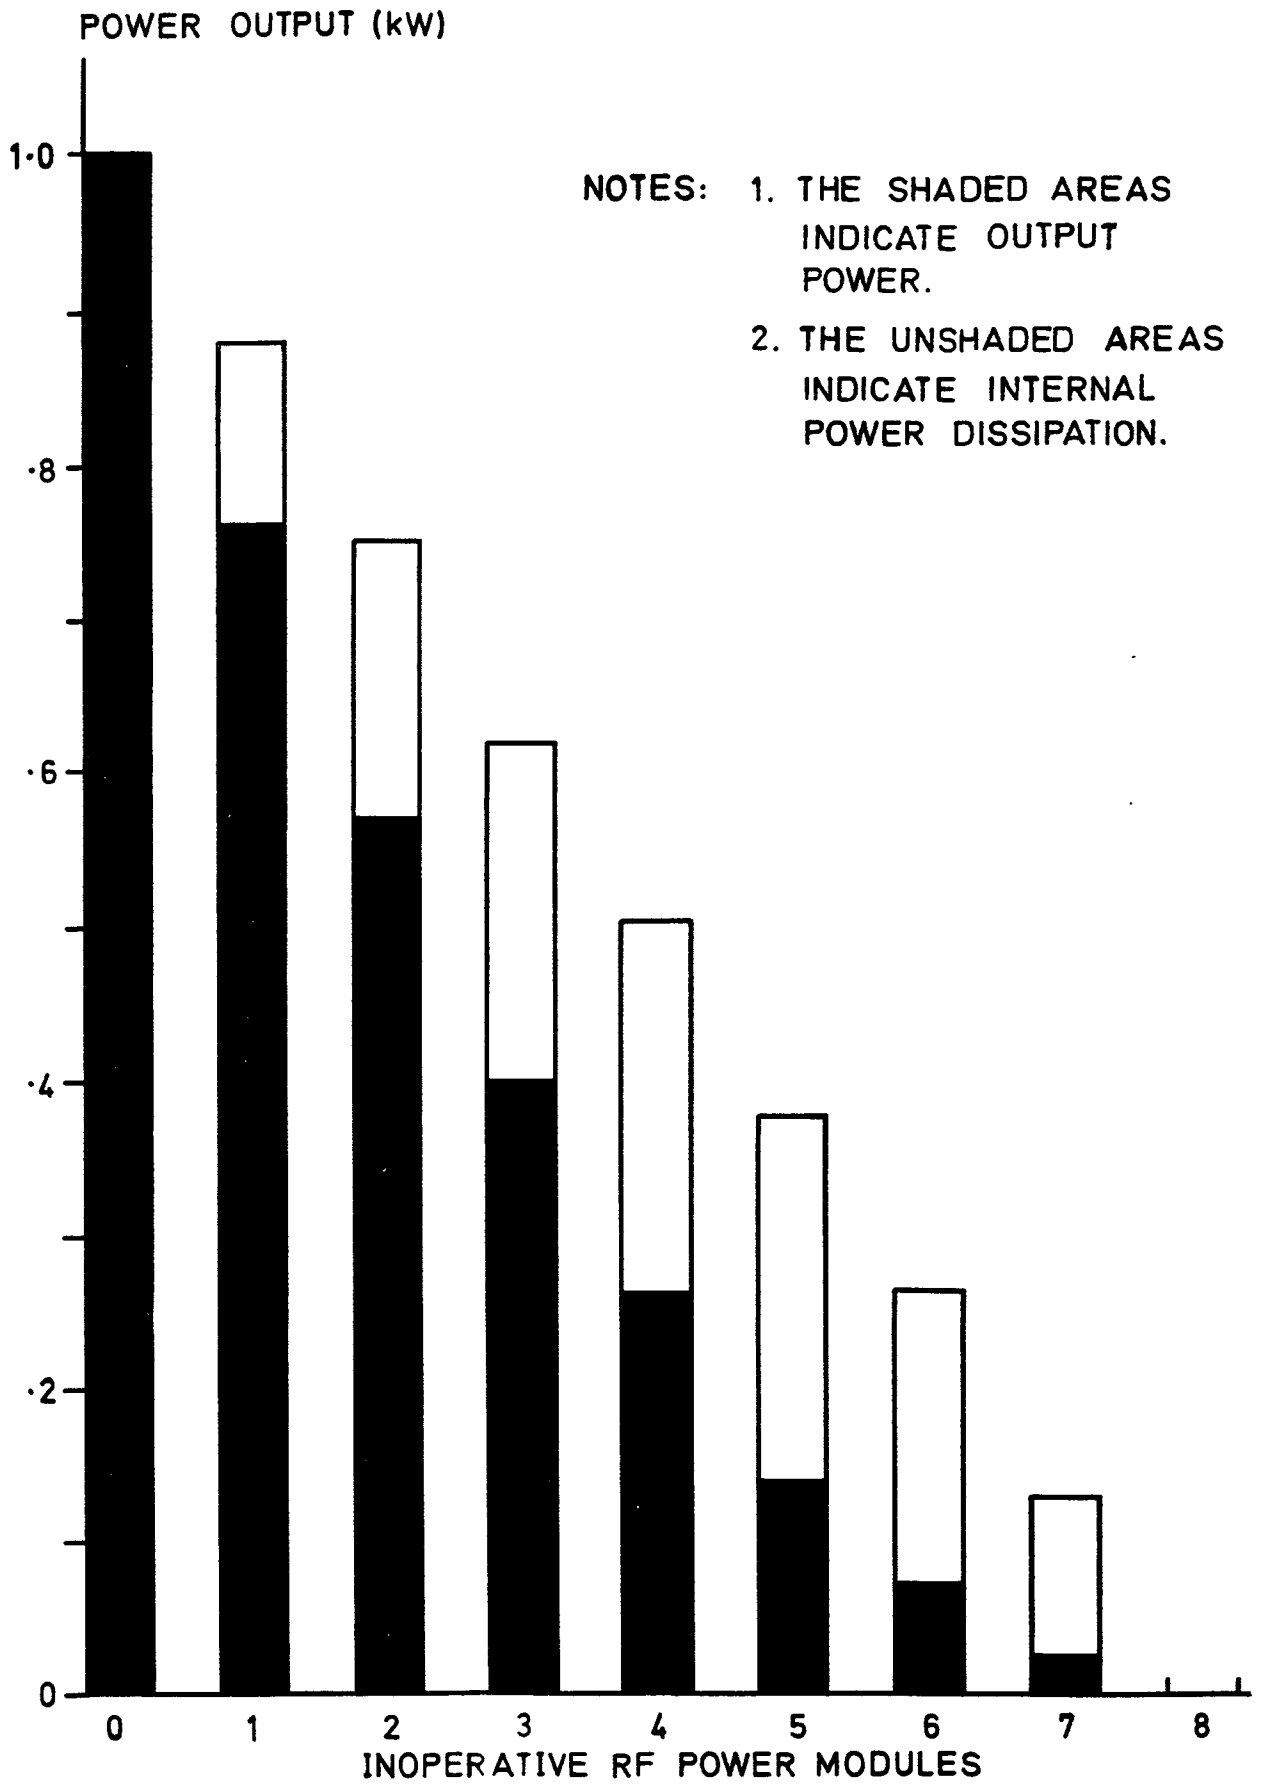

Fig.5 Available-power chart
22. It may be noted that when one of the amplifier-stabilizers e.g. No.3 is switched off, the power output falls by more than 1/8 of the total. Part of the output from the companion unit (No. 7) is dissipated in the combining network. If a second MM.420 e.g. No.6 is now switched off, part of No.2 output is also lost. Figure 5 shows how the effect is cumulative down to the last MM.420. Should faults develop in more than two amplifier-stabilizers, and assuming spares are not available, it is advantageous to transfer four serviceable units into one bank and operate the TA.1810S in the 500W configuration.